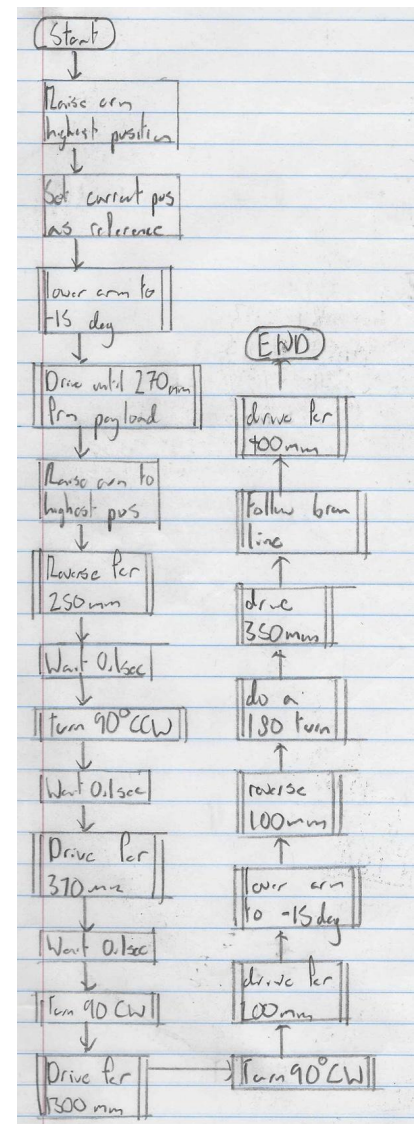

Figure 3: Task flowchart
Before we started our solution it was important for us to recognise the three ways the robot was going to move around the map. These would include Sonar-Based navigation, Encoder-Based Navigation and Line following navigation. (See Appendix B, figure 3)
The function *wheeltomilli()*; takes the wheel encoder count and converts them to travelled distance in mm. As we know that there are 1800 counts for the product of 3, 103 and pi mm travelled, we can use this to return the distance travelled by the wheels. (See appendix A figure 3 for flowchart)
The function *waitForStart()*; enables the user to make the robot start only when the button is pressed. The variable is initialised as an integer zero before the start button is pressed. The while function checks if a button is pressed. checking to see if the start button is pressed, it will check if it is true and sets value to one. It then rechecks sensor after 50 milliseconds and if start button is pressed the initialised value of 1 delays 0.5 secs and proceeds. (See appendix B figure 3 for flowchart)
Appendix A Figure 3. *wheeltomilli()*; function flowchart : takes the wheel encoder count and converts them to travelled distance in mm.
Appendix B Figure 3. WaitforStart(); additional function flowchart : enables the user to make the robot start only when the button is pressed.
- Figure 3 : Task Solution Flowchart